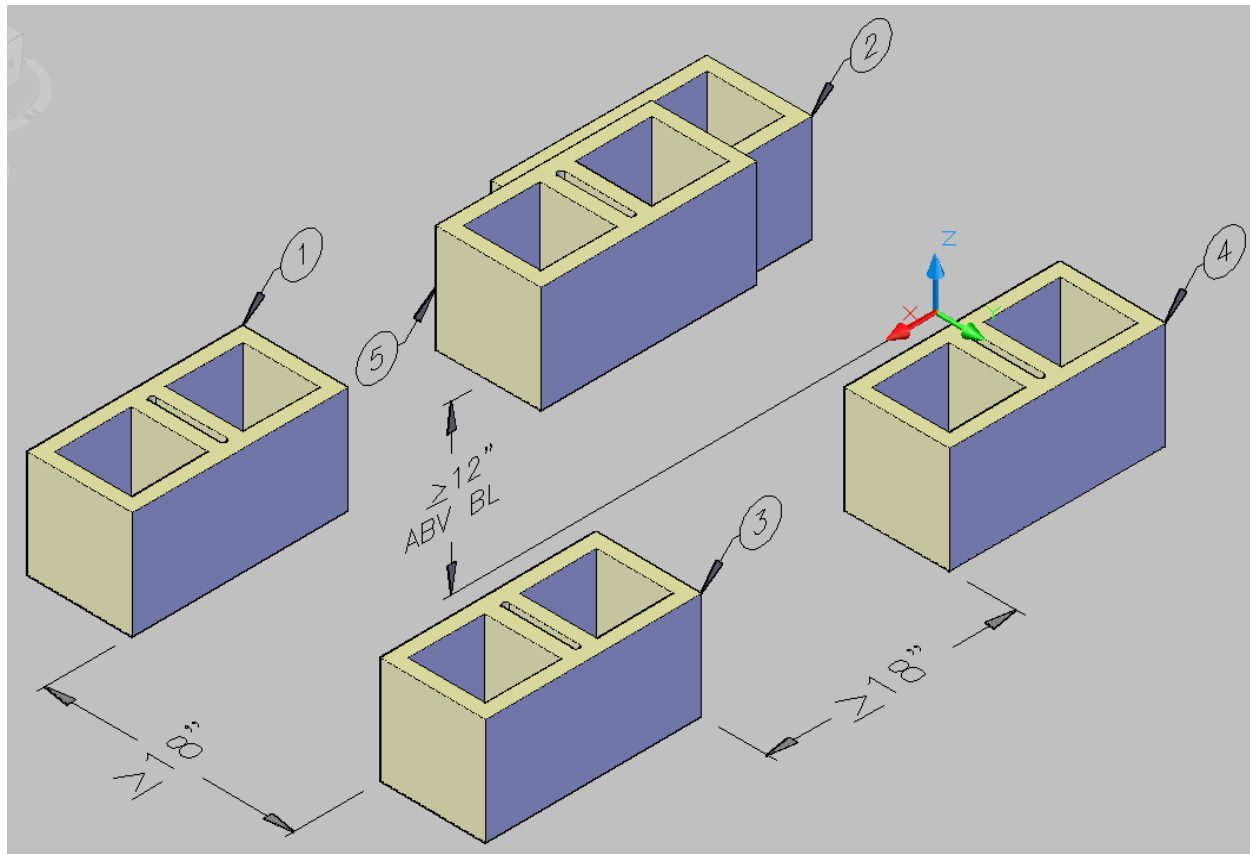

Figure 1
Each boat must carry five (5) concrete masonry units (CMU) in the arrangement prescribed in Figure 1.